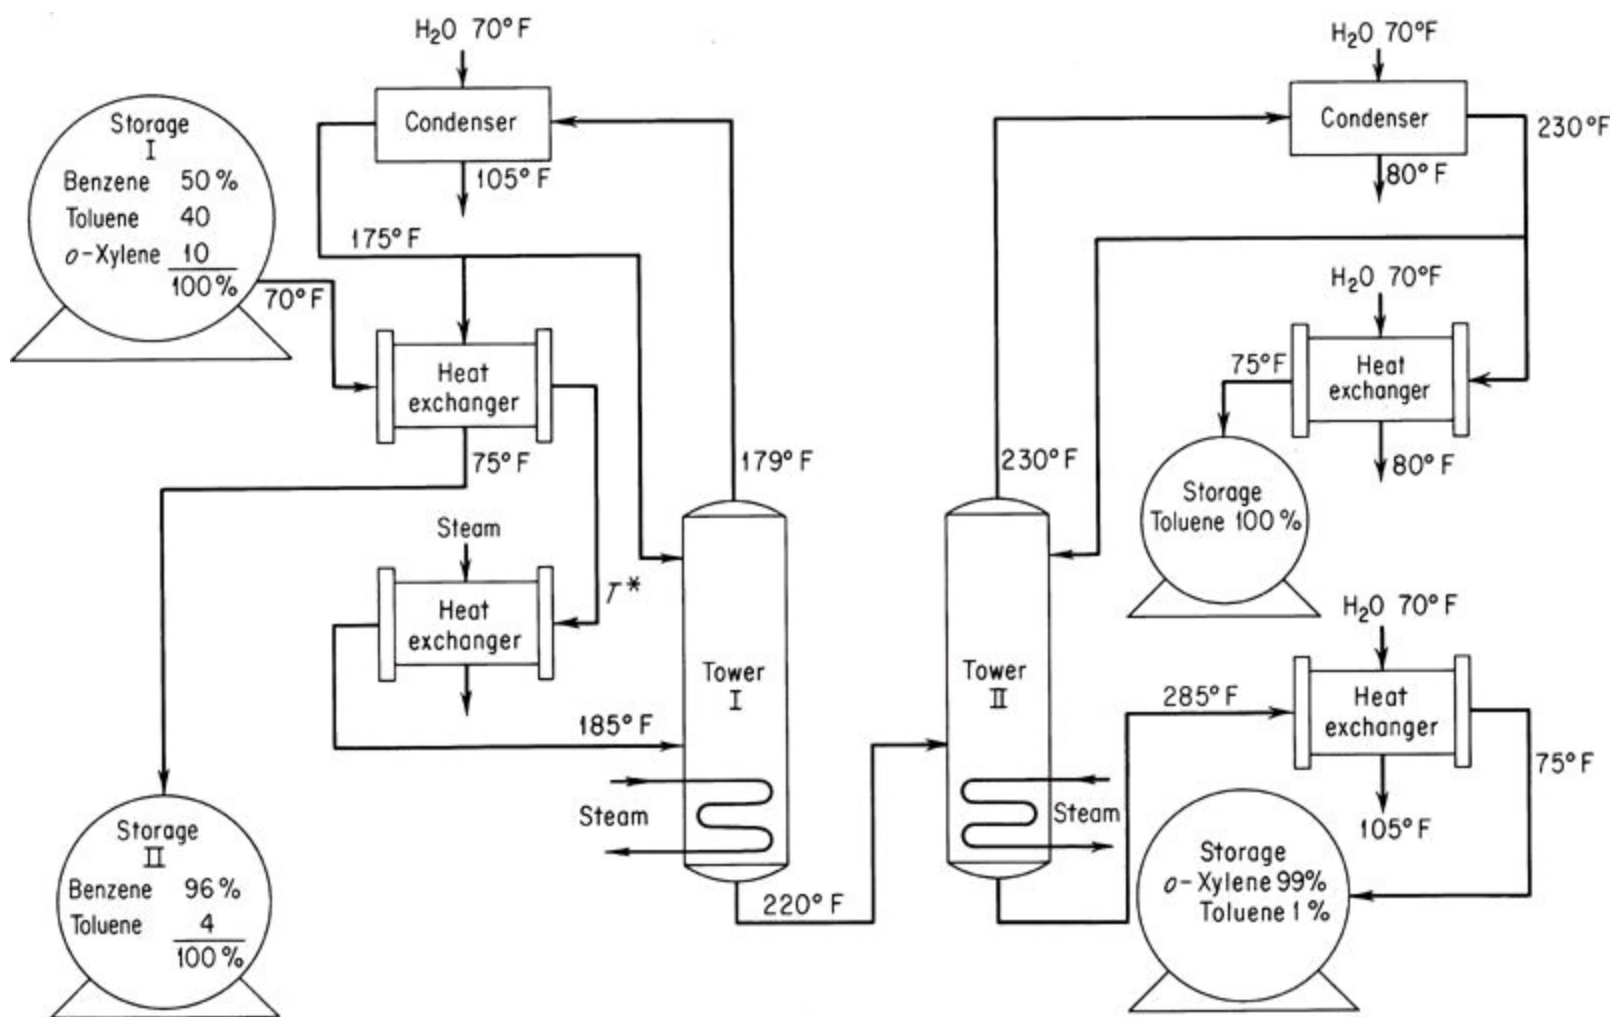

Figure P16.9
16.9. One hundred thousand pounds of a mixture of 50% benzene, 40% toluene, and 10% *o*-xylene is separated every day in a distillation-fractionation plant as shown on the flowsheet for Figure P16.9.